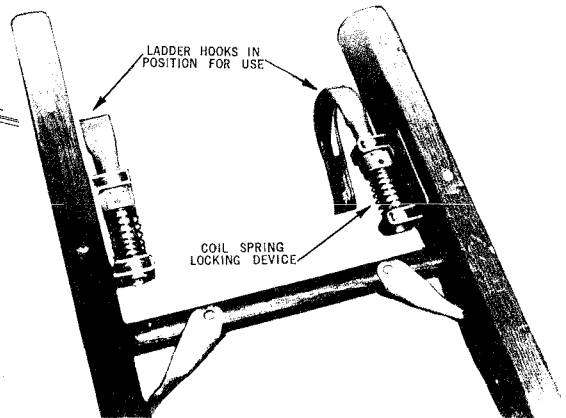

Fig. 14 — Ladder Hooks
6.11 The *ladder hooks* provided on Extension Ladders are shown in Fig. 14.